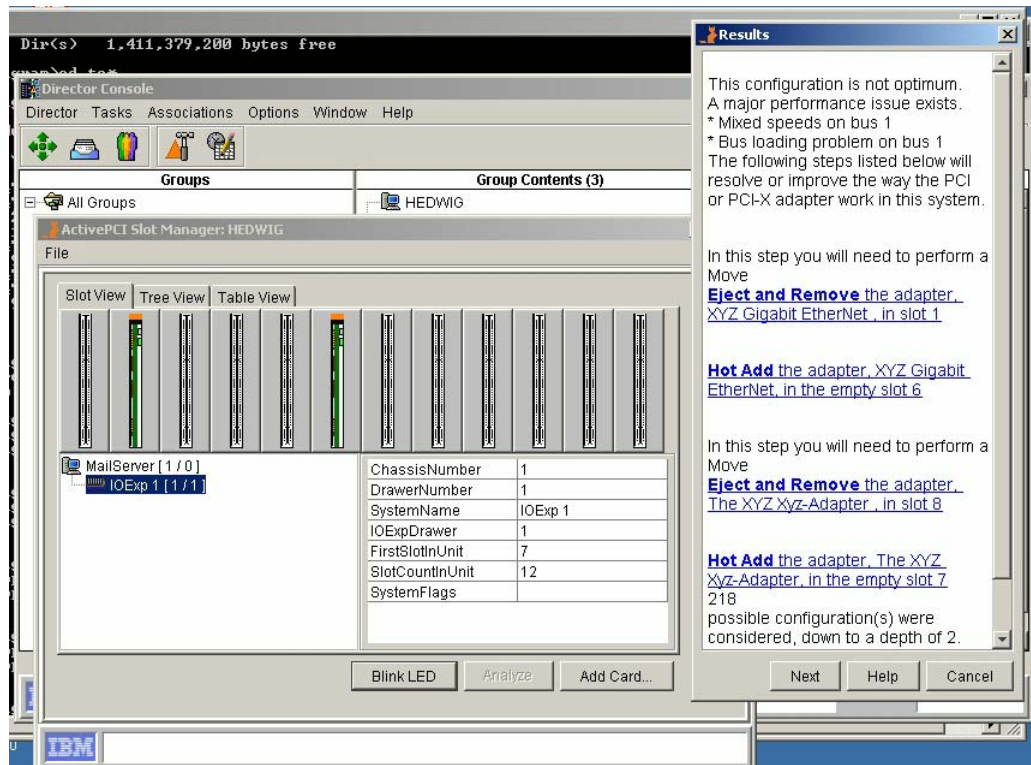

Figure 5. Active PCI Manager
- Active PCI Manager** — Active PCI Manager helps x360 and x440 users optimize I/O performance by matching card characteristics to the PCI-X bus and offering guidance as to the best slots in which to install PCI and PCI-X adapters. It also suggests whether adapters should go in the server or in an RXE-100 Remote Expansion Enclosure containing an additional 6 or 12 PCI-X slots. Active PCI Manager helps optimize the allocation of slots to the bus speeds, in order to maximize throughput. Currently, Active PCI Manager supports only Windows 2000. Support for Microsoft Windows .NET is planned for a future version of Active PCI Manager. (Figure 5 shows how this tool—still in development—might look in the final version.)